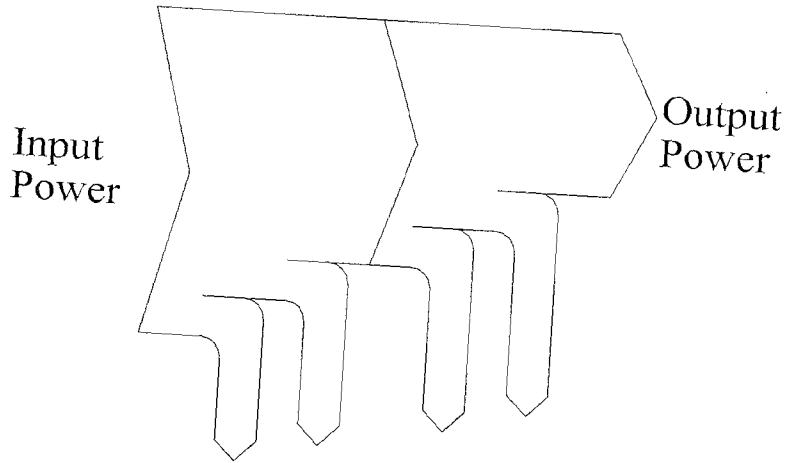

Figure 2 A Diagram showing various power losses between input and output.
3. (a) Describe the principal parts of an induction machine and the materials they are constructed from. Outline the principle of operation. Label and describe the losses on a loss diagram similar to figure 2. [7]